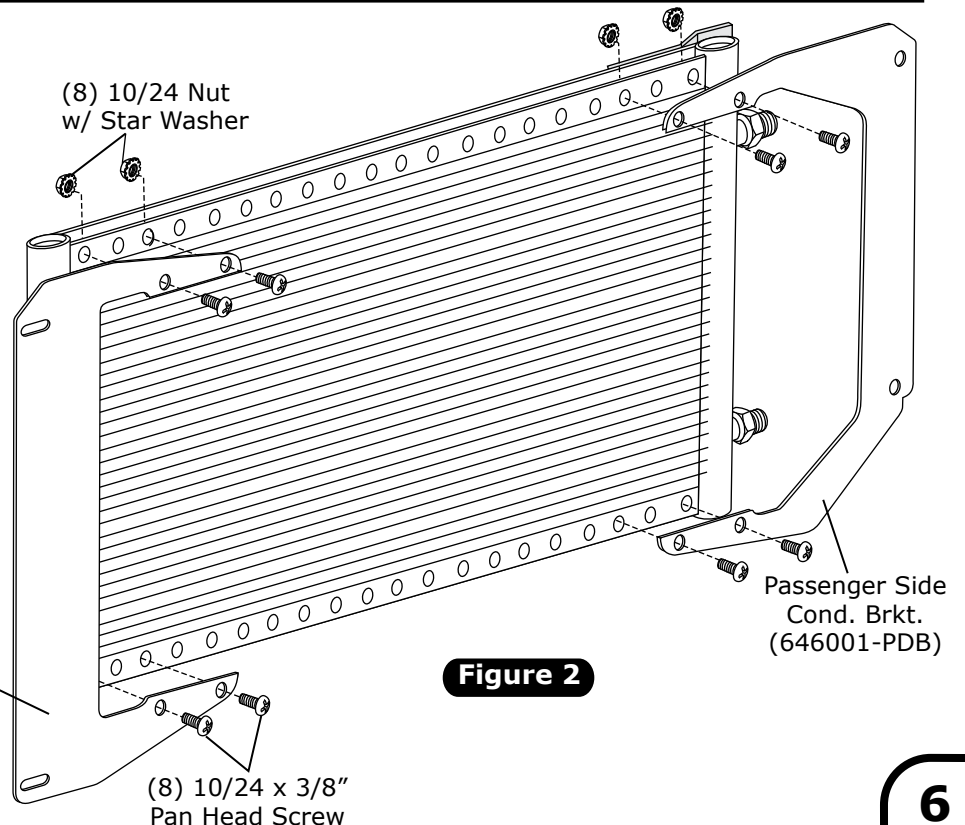

Figure 2
1. Install condenser mounting bracket on condenser using (8) 10/24 x 3/8" pan head screws and (8) 10/24 nuts with star washers (See Figure 2, below). **NOTE: Brackets mount through the first and third hole in the condenser.**